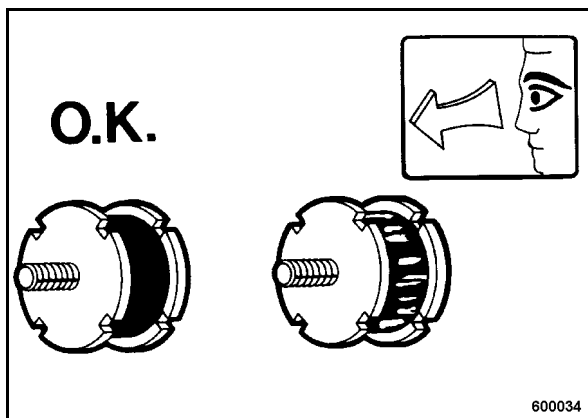

Fig. 81
- Check all rubber buffers (Fig. 81) for tight fit, cracks and damage and replace immediately if damaged.